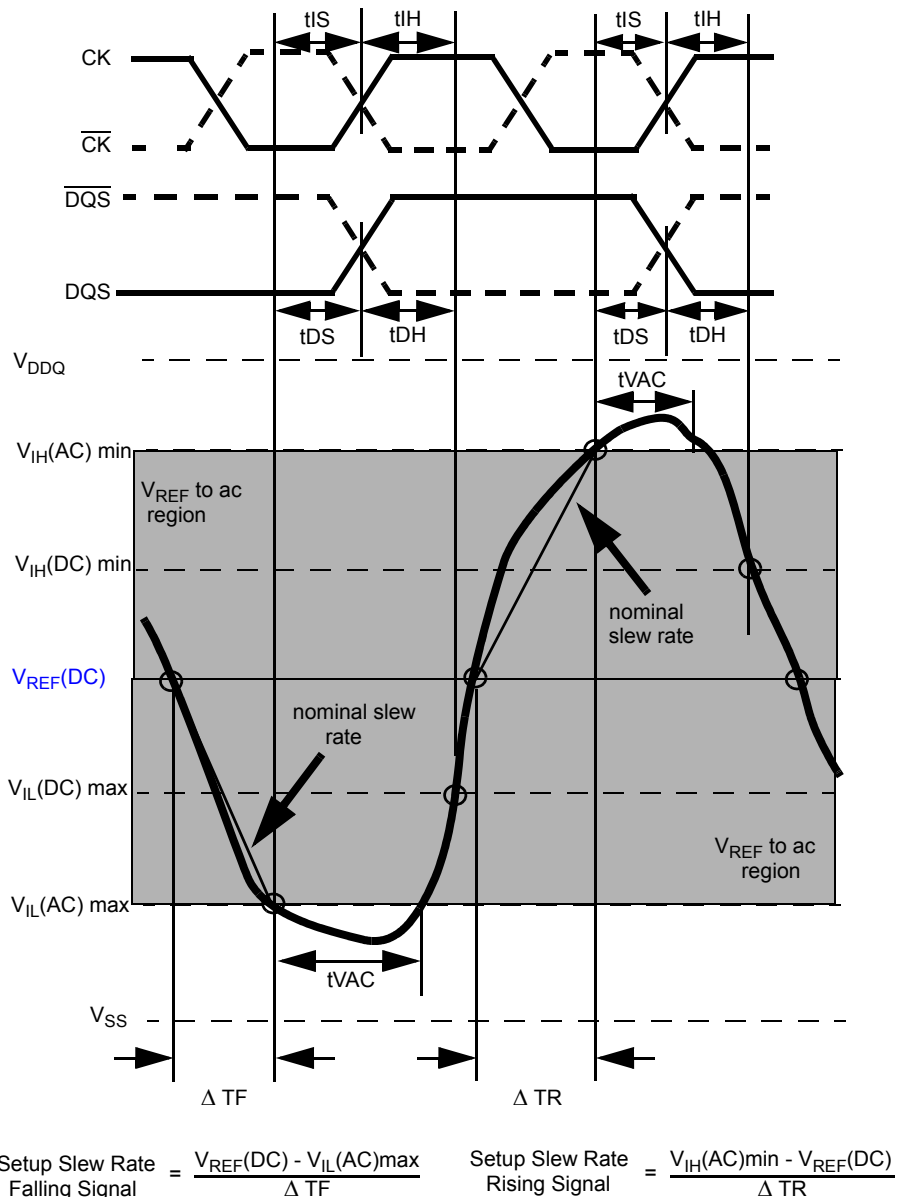

Figure 25. Illustration of nominal slew rate and tVAC for setup time tDS (for DQ with respect to strobe) and tIS (for ADD/CMD with respect to clock).
Setup (tDS) nominal slew rate for a rising signal is defined as the slew rate between the last crossing of V_{REF}(DC) and the first crossing of V_{IH}(AC)min. Setup (tDS) nominal slew rate for a falling signal is defined as the slew rate between the last crossing of V_{REF}(DC) and the first crossing of V_{IL}(AC)max (see Figure 25). If the actual signal is always earlier than the nominal slew rate line between shaded 'V_{REF}(DC) to ac region', use nominal slew rate for derating value. If the actual signal is later than the nominal slew rate line anywhere between shaded 'V_{REF}(DC) to ac region', the slew rate of a tangent line to the actual signal from the ac level to dc level is used for derating value (see Figure 27).